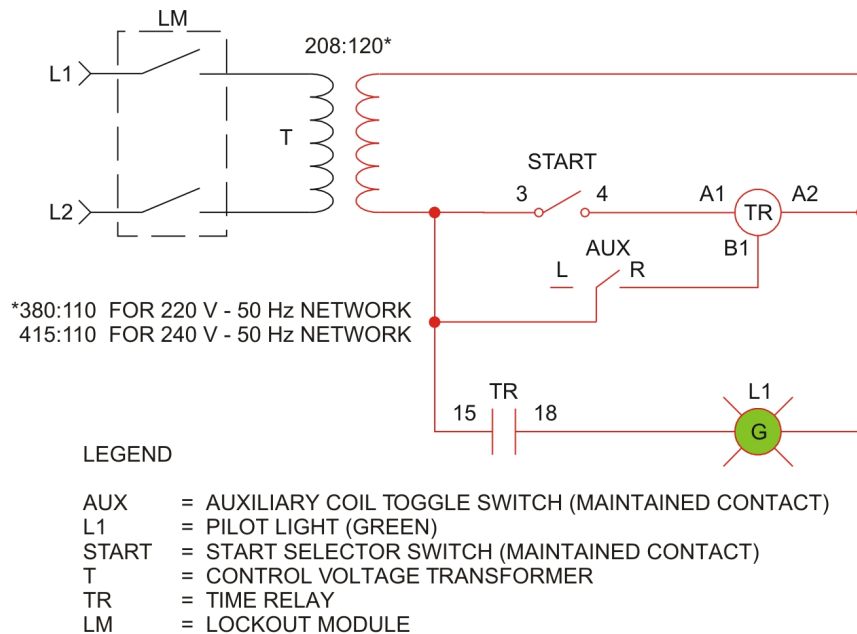

Figure 6-5. Basic time-delay circuit.
Figure 6-5 shows a time-delay circuit. When the selector switch closes, the time relay coil is energized. If an on-delay is set, the NO contact closes after the preset time  $t$ , turning on the green light. Opening the selector switch de-energizes the circuit, turning off the green light.
- 2. Connect the circuit shown in Figure 6-5. Use the SS-1 contact of the Selector Switches module.